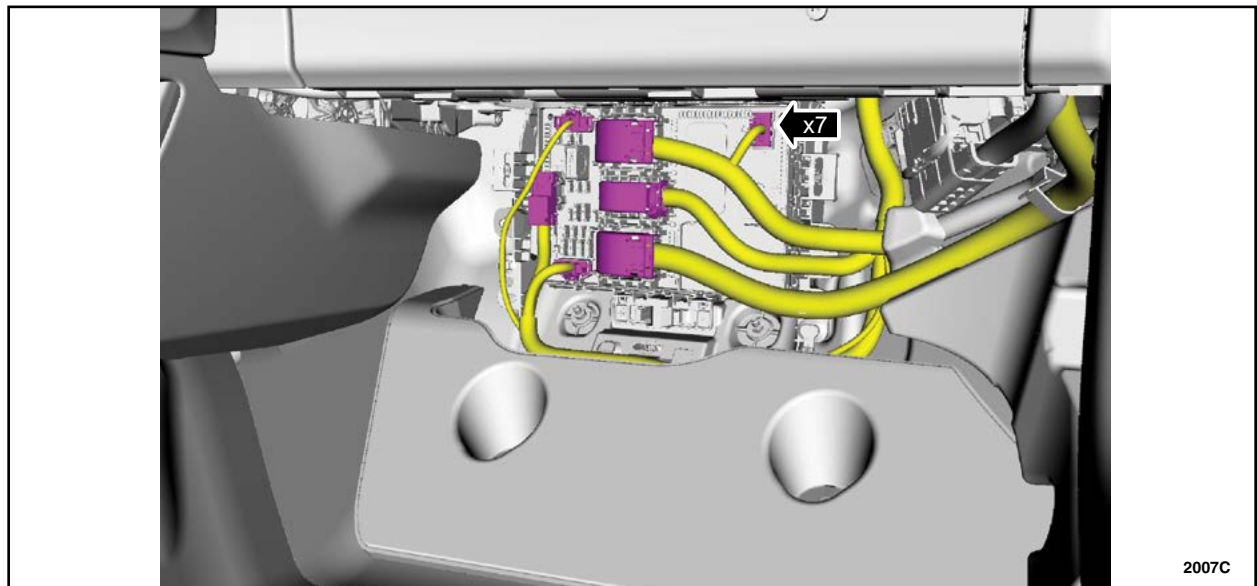

FIGURE 3
5. Disconnect the BCM electrical connectors. See Figure 3.